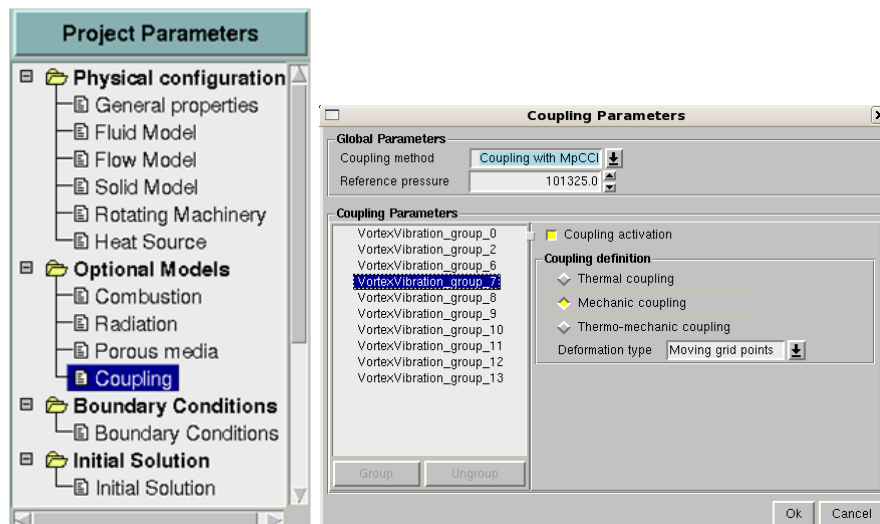

Figure 3: Identifying boundaries in FINE/Open GUI
- the coupling definition is set up for the corresponding boundary with the corresponding coupling definition (Thermal coupling, Mechanic coupling, Thermo-mechanic coupling) depending on the selected quantity to couple. Figure 3.